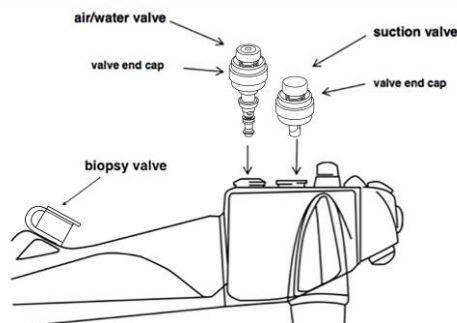

Figure 1
- Insert the suction valve into suction cylinder of an Olympus® endoscope (see Figure 1 below).
- Insert the air/water valve into the air/water cylinder of an Olympus® endoscope (see Figure 1 below).
- If using the 3-piece, 4-piece or 5-piece kit (See Figures 1 and 2), attach the BullDog® Biopsy Valve.
- Securely place the biopsy valve onto the biopsy/suction channel opening of an Olympus® endoscope (See Figure 1).